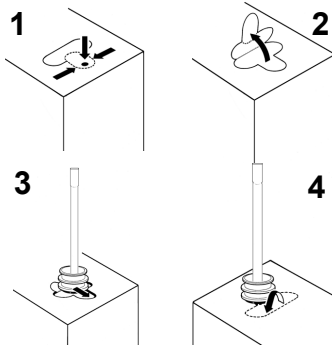

figure 1
- 1 - Press the die cut area on the box (1). Extract the strap (2). Extract the pinch tube and the union from the box. Insert the union in its housing (3). Fix the union in its housing by the strap (4) (see figure 1).